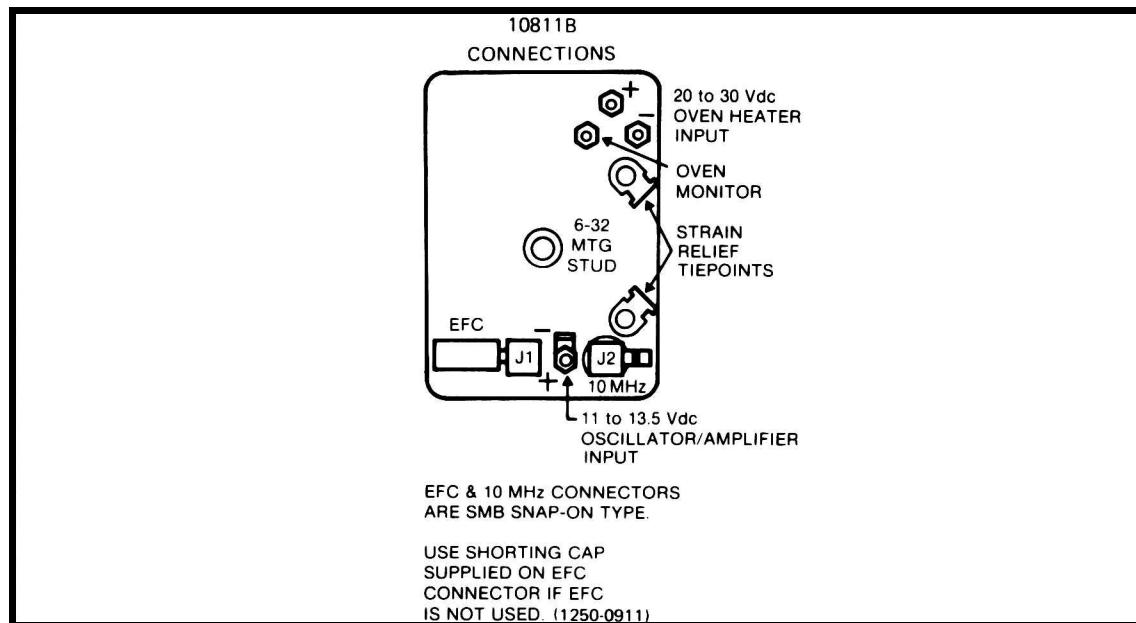

Figure 2-4. 10811B Supply and Output Connections
- 2-23. If you do not wish to use the Amphenol connector, it may be easily removed. The SMB connectors mate to Cablewave Systems, Inc. #700156 or equivalent HP Part No. 1250-0885 (not supplied). Figure 2-4 shows the connections for the 10811B Oscillator.